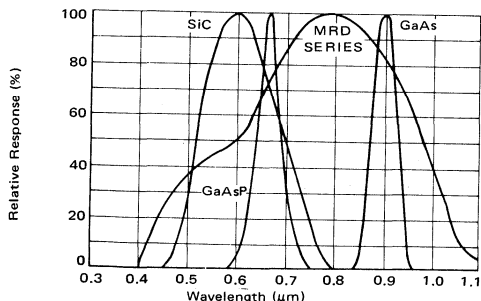

FIGURE 24 — Spectral Characteristics for Several LED's Compared with MRD Series
shown in Figure 24, but as the figure shows, the GaAs diode and the MRD phototransistor series are particularly compatible. Application of Equation (26) to the GaAs response and the MRD series response indicates that the efficiency ratio, H_E/H , is approximately 0.9 or 90%. That is, an irradiance of 4.0 mW/cm² from an LED will appear to the phototransistor as 3.6 mW/cm². This means that a typical GaAs LED is about 3.5 times as effective as a tungsten lamp at 2870°K. Therefore, the typical sensitivity for the MRD450 when used with a GaAs LED is approximately